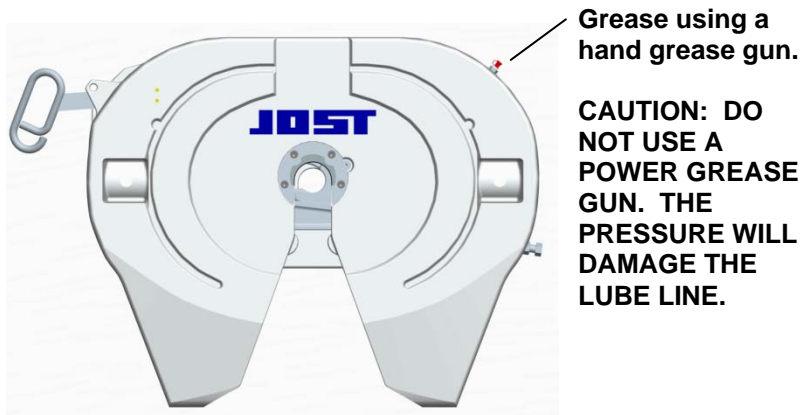

FIGURE 1
- Lubricate the kingpin lock using a hand pump grease gun through the grease zerk provided on the skirt of the fifth wheel (see figure 1).